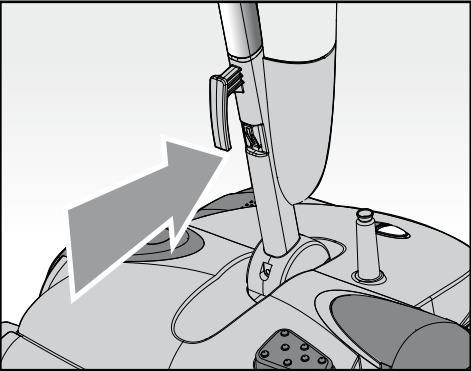

Fig. 2
- insert the rotating handgrip (H) into the top end of the handle (I), pressing it as far as it will go;
- fit the assembled handle (I) on the appliance body, pushing it down with care until it clicks into place (Fig. 2);
- insert the water tank (M), complete with cap (L) into the special housing on the handle (I).